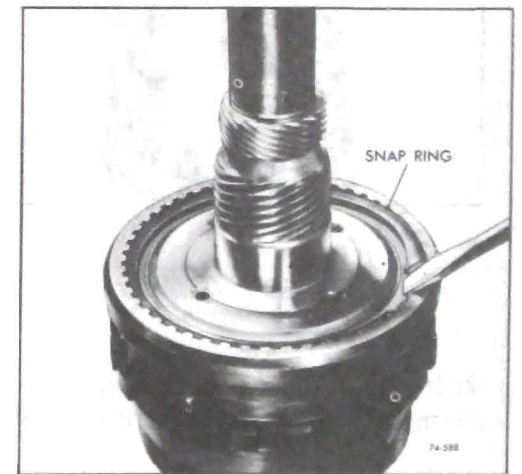

Figure 76-588
8. Install output shaft to output carrier snap ring. See Figure 76-588.